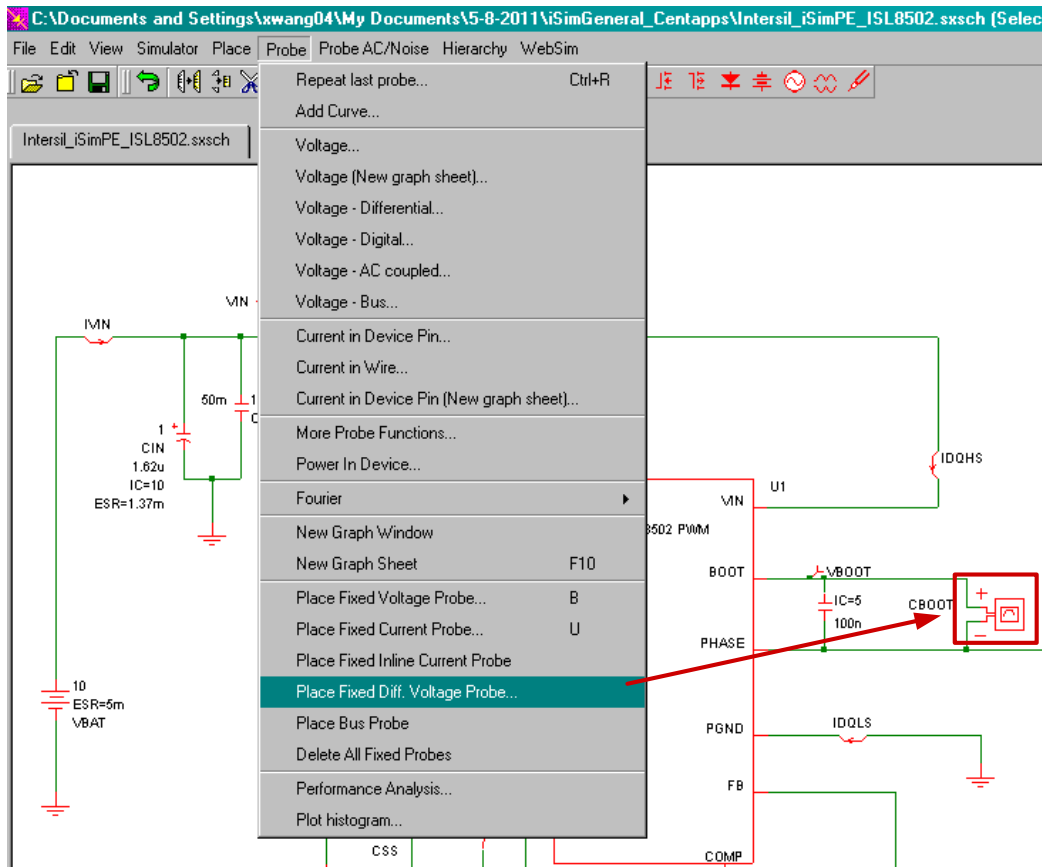

FIGURE 22. PLACE FIXED DIFFERENTIAL VOLTAGE PROBE
3. Fixed differential voltage probe - plots the voltage between two points. Go to **Probe** -> **Place Fixed Differential Voltage Probe** and connect the two points to the positive and negative input of the probe, as shown in Figure 22.